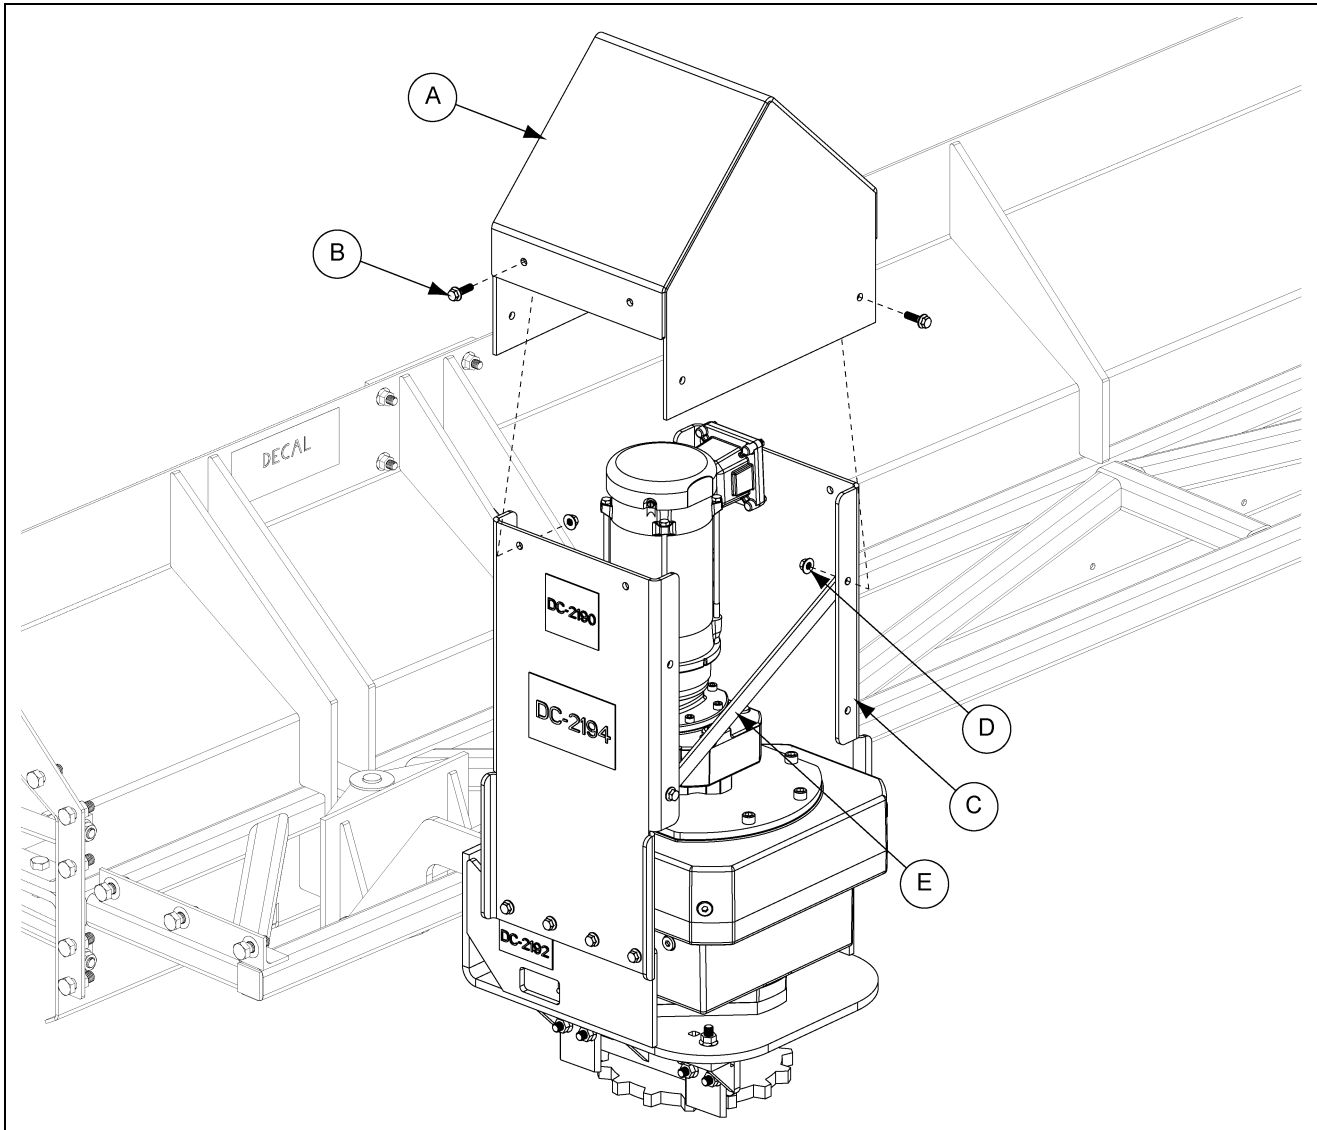

Figure 8J
1. Attach the drive motor hood (A) to the drive motor side covers (C) using flange bolts (B) and flange nuts (D). (See Figure 8J.)